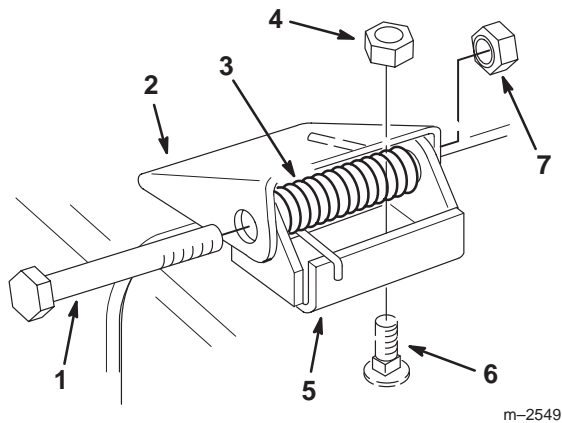

Figure 31
1. Remove the locknuts, bolts and springs holding the deflector mounts to the pivot brackets (Fig. 31).
2. If the pivot brackets need to be replaced, remove the carriage bolts and cone locknuts holding the old brackets to the top of the discharge opening, then install the replacement pivot brackets. Make sure the carriage bolt heads are on the inside of the cutting unit (Fig. 31).
3. Install the deflector mounts onto the pivot brackets with the bolts, springs and locknuts. Make sure the straight ends of the springs are positioned between the deflector mounts and the grass deflector (Fig. 31).
4. Tighten the locknuts until they contact the pivot brackets (Fig. 31).